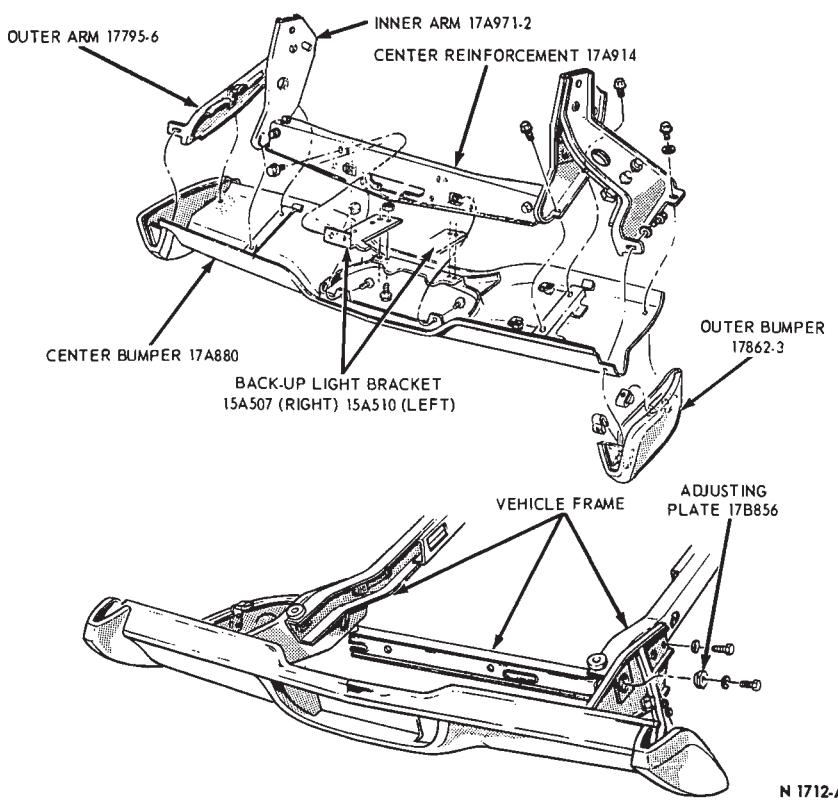

FIG. 21—Rear Bumper Installation
2. Remove the bumper arm to frame attaching bolts (Fig. 21) and remove the bumper and arms from the vehicle.
4. Remove the center reinforcement, bumper arms, and outer bumpers from the center bumper (Fig. 21).
2. Install the inner arms and center reinforcement on the bumper (Fig. 21).
3. Install the outer arms and outer bumpers on the bumper (Fig. 21).